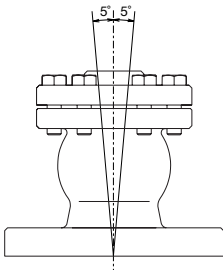

Figure 1
3. This product must be installed vertically within the limits of inclination, with the inlet at the bottom and the outlet at the top, as shown below (Figure 1).